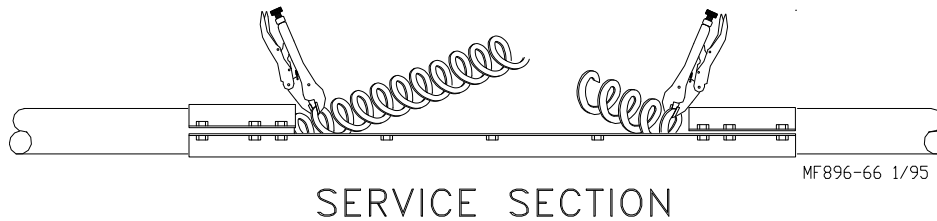

Figure 64. Stretching the auger
6. Use locking pliers to hold on end of the auger in place while stretching the auger, see **Figure 64**.
10. Pull another 18" [460 mm] of auger and install another set of locking pliers to keep the auger from springing back into the auger tube, see **Figure 64**.